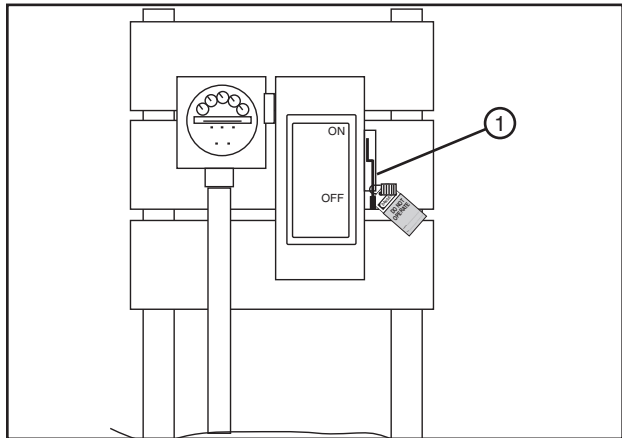

Figure 112-1 1. Public Power Service Disconnect
1. SHUT OFF and LOCK the public power service disconnect to the irrigation machine. See figure 112-1.
FILL OUT the blue (OSHA safety color code) tag and attach to the disconnect after locking. See figure 112-1.